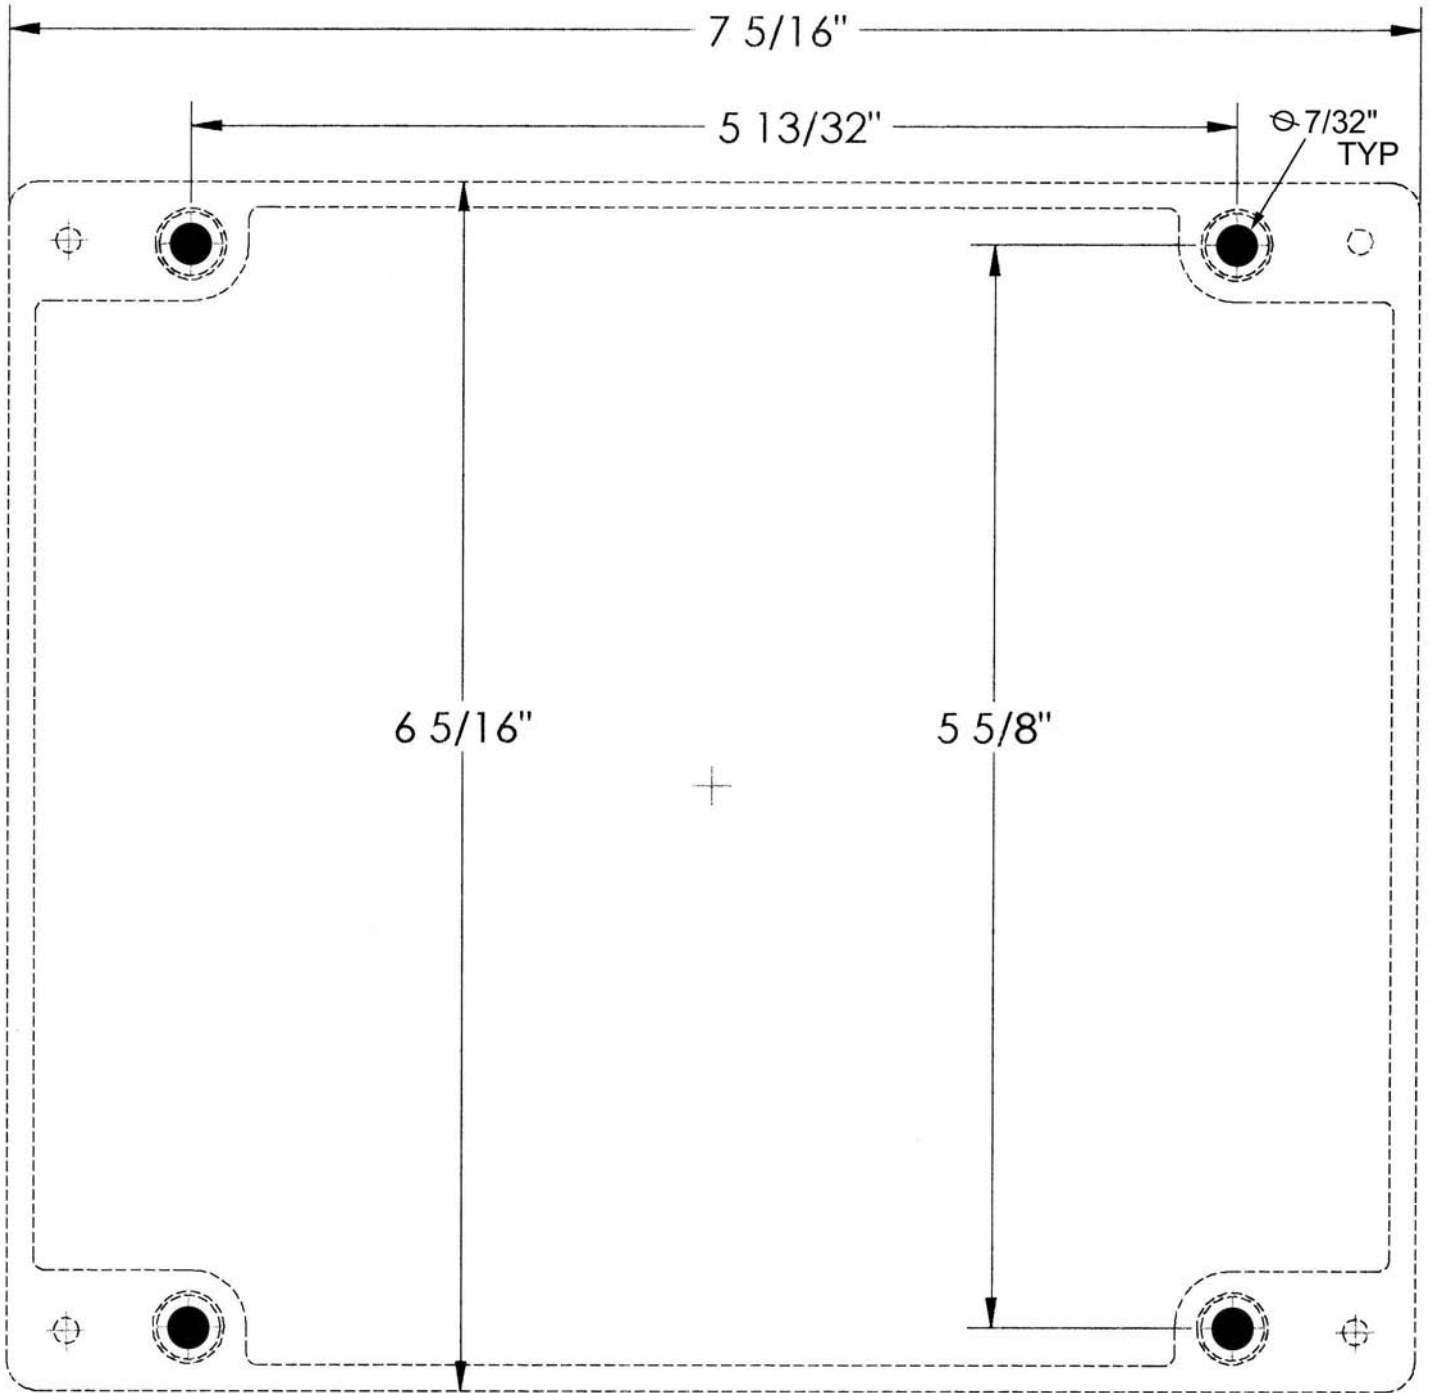

Figure 3: Master Station Mounting Template
- q Drilling Template (**Figure 3**)
- q Using the mounting template in **Figure 3**, mark and drill the (4) 7/32-inch holes through the mounting surface.